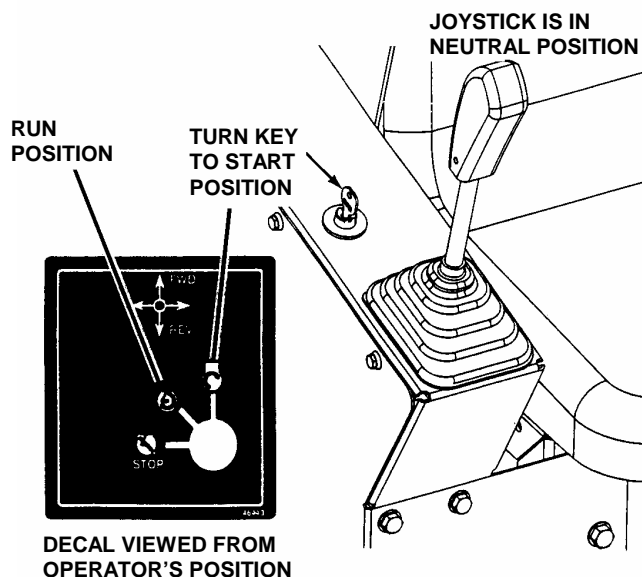

FIGURE 2.5
2. Make certain the joystick lever is in the neutral (N) position as shown in Figure 2.5.
5. Turn key to the start position until engine starts. See Figure 2.5.